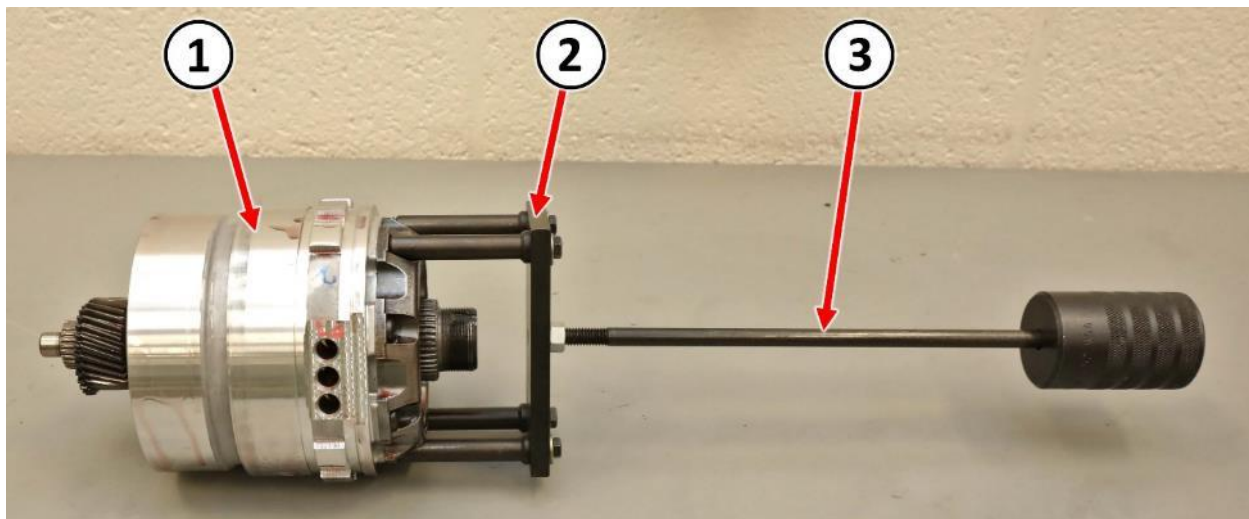

**Figure 30 – Compounder Assembly on Clean Work Surface**
42. Place the underdrive compounder assembly (1) on a clean work surface to prevent contamination (Figure 30).
43. Remove Slide Hammer C-3752 (3) from the Puller Adapter 9908 (2) (Figure 30).